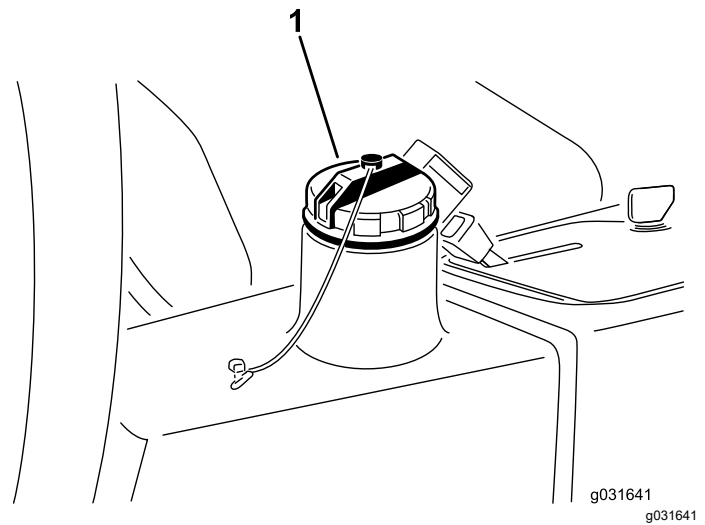

Figure 65
4. Fill the reservoir (Figure 65) with approximately 13.2 L (3.5 US gallons) of hydraulic fluid; refer to Checking the Hydraulic System \(page 50\).